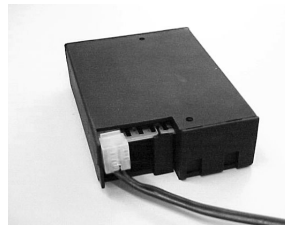

fig. 7
- Connect the wires to the connectors on the gas control valve. The different sized plugs correspond with the connectors on the gas control valve (fig. 7).